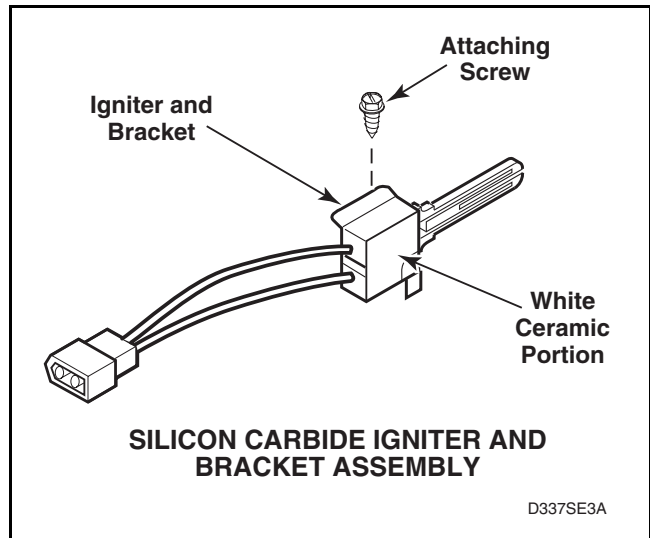

Figure 70
- f. **Silicon Carbide Igniter** – meter should read between 45 – 200 Ohms. Refer to *Figure 70*.